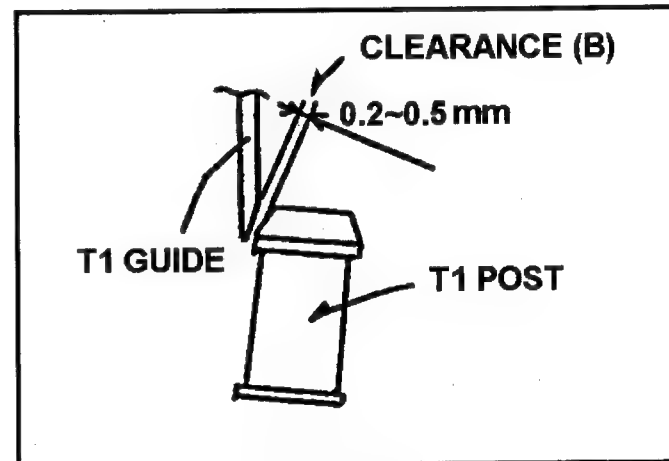

Fig. 6-1-6
1. Observe the clearance (B) between T1 Guide and T1 post as shown in Figure 6-1-6. And make sure that it is within 0.2 to 0.5mm.
2. If not, loosen the 2 screws (A) and adjust the position of T1 Guide by moving to arrow direction (G ⇌ G) so that the clearance (B) is within specification. And tighten the 2 screws (A).